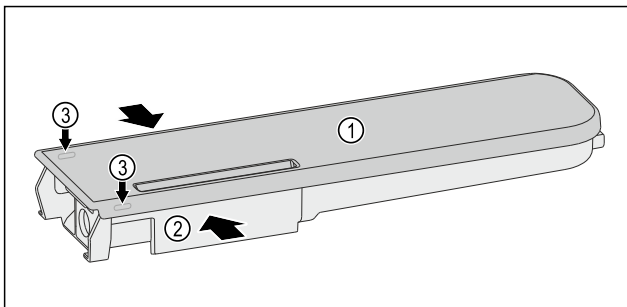

Fig. 119
- ▶ Push the water tanks *Fig. 119 (2)* together, leverage the cover *Fig. 119 (1)* carefully over the latching tabs *Fig. 119 (3)* and lift it up.
- ▶ Move the cover *Fig. 119 (1)* slightly forwards and back, and remove to the top.